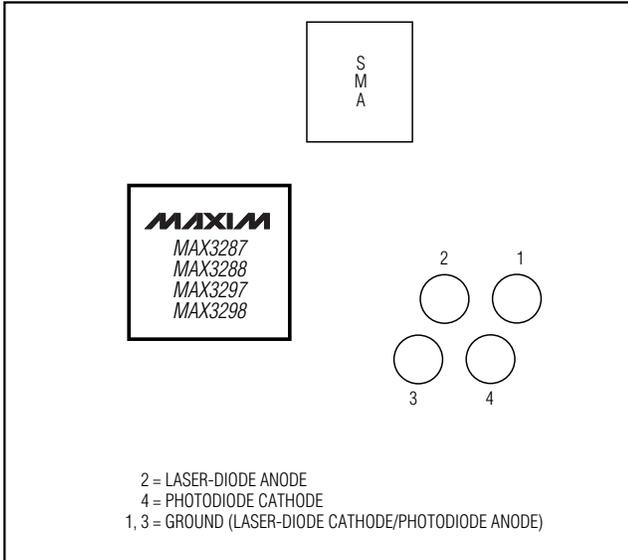

Figure 1. Optical Connection Diagram
| D1 | 0 | Open, user supplied (laser diode and photodiode assembly; Figure 1) |
- 2) Make sure nothing is installed in the laser socket (Figure 1).
- 4) Connect a laser to the board (Figure 1).